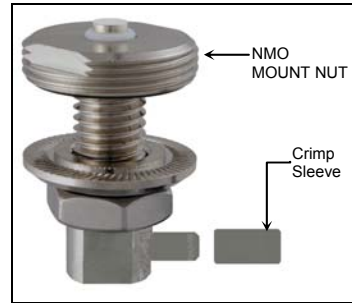

Figure 1
**1. Parts:** Verify all parts are included (See Figure 1 and 4).